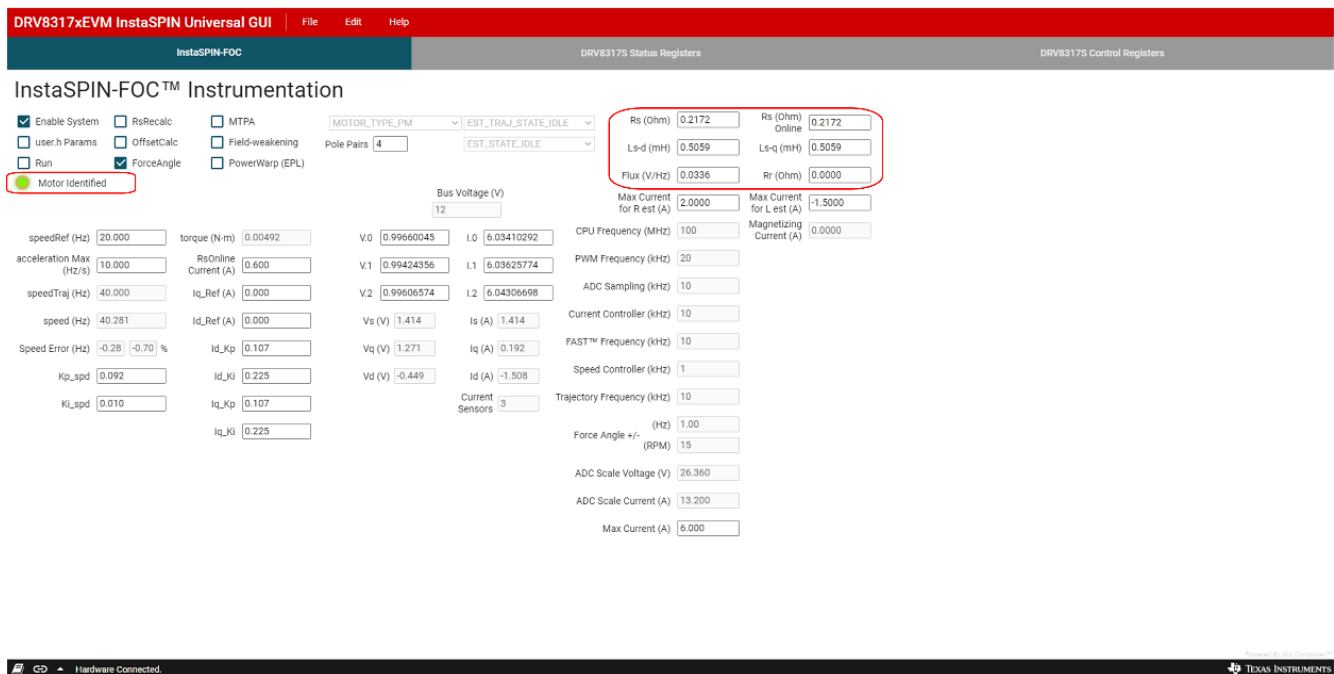

Figure 6-3. Motor identification complete using the DRV8317HEVM InstaSPIN GUI
3. Once the motor identification process is complete, the "Motor Identified" indicator will light up, the "Run" box will be automatically unchecked, and the values Rs, Rs Online, Ls-d, Ls-q, Flux, and Rr will update for that motor as shown in Figure 6-3. These values will be automatically used for Field-oriented control.